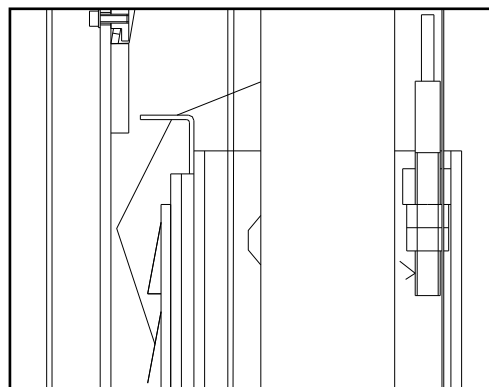

Fig. 14
- ◆ Keep both cables in balance during raising or lowering. (Fig. 14)